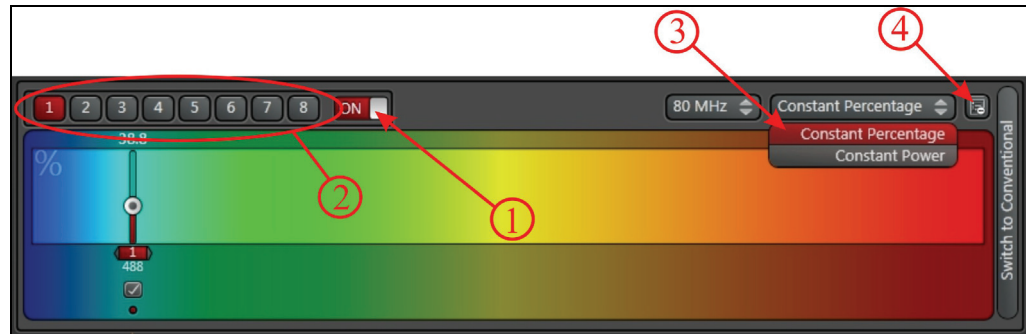

Figure 108: Adjusting Constant Percentage
2. Switch the white light laser to **ON** (**Figure 108, item 1**). The red-colored **ON** button signals that the shutter is open. Then, a laser line appears in the laser spectrum.
3. You can activate up to eight laser lines simultaneously. Click the corresponding buttons (**Figure 108, item 2**).
When **Constant Percentage** (**Figure 108, item 3**) is selected, work can be done using less power (e.g. 70 %).
6. Then, click on the nearby button (**Figure 108, item 4**) to call up the laser configuration window.